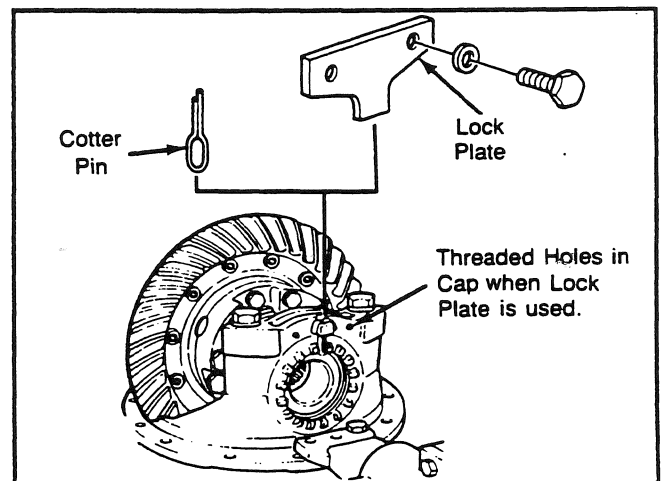

Fig. 88
a) Install the cotter pin between the adjusting ring lugs and through the bearing cap boss. Bend the two ends of the cotter pin around the boss (see Fig. 88).
b) Install the lock plate on the bearing cap so that the tab is between the adjusting ring lugs. Install the two bolts retaining the lock plate to the bearing cap (see Fig. 88). Tighten the bolts to the specified torque.